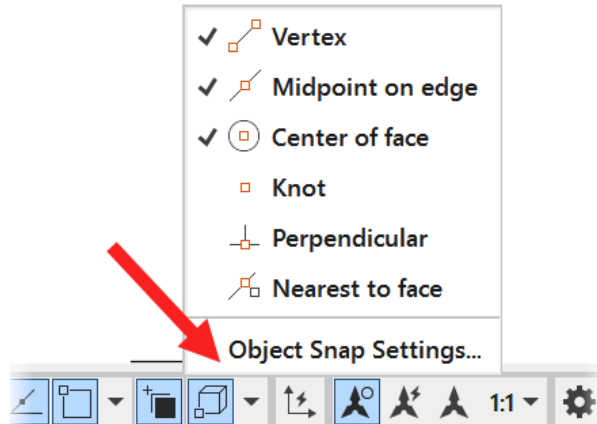

Figure 4.6: The 3D Object Snap flyout menu
**3D Object Snap** operates in the same way as the regular **Object Snap** drafting setting. You switch it on and select your running 3D object snaps from the flyout menu. If you click on the flyout arrow to the right of the **3D Object Snap** icon, you will see the 3D object snaps on the flyout menu. This is shown in *Figure 4.6*:
You will notice in *Figure 4.6* that **Vertex**, **Midpoint on edge**, and **Center of face** have tick marks against them, which signify that these are currently the running 3D object snaps.